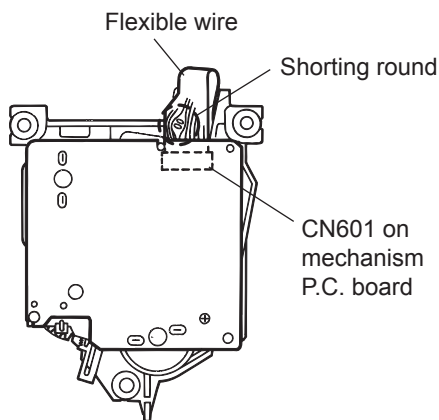

Fig.11
2.3.4 Removing the Pickup(Refer to Figs. 11 to 14.)